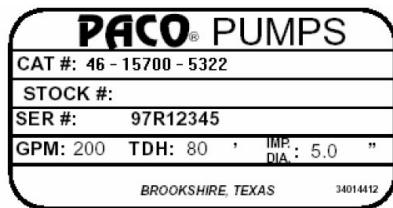

FIG. 1 PUMP NAMEPLATE
- a. Pump Identification: All PACO Pumps are identified by Catalog and Serial Numbers. These numbers are stamped on the pump nameplate (Fig. 1) affixed to each pump volute casing, and should be referred to in all correspondence with the Company.